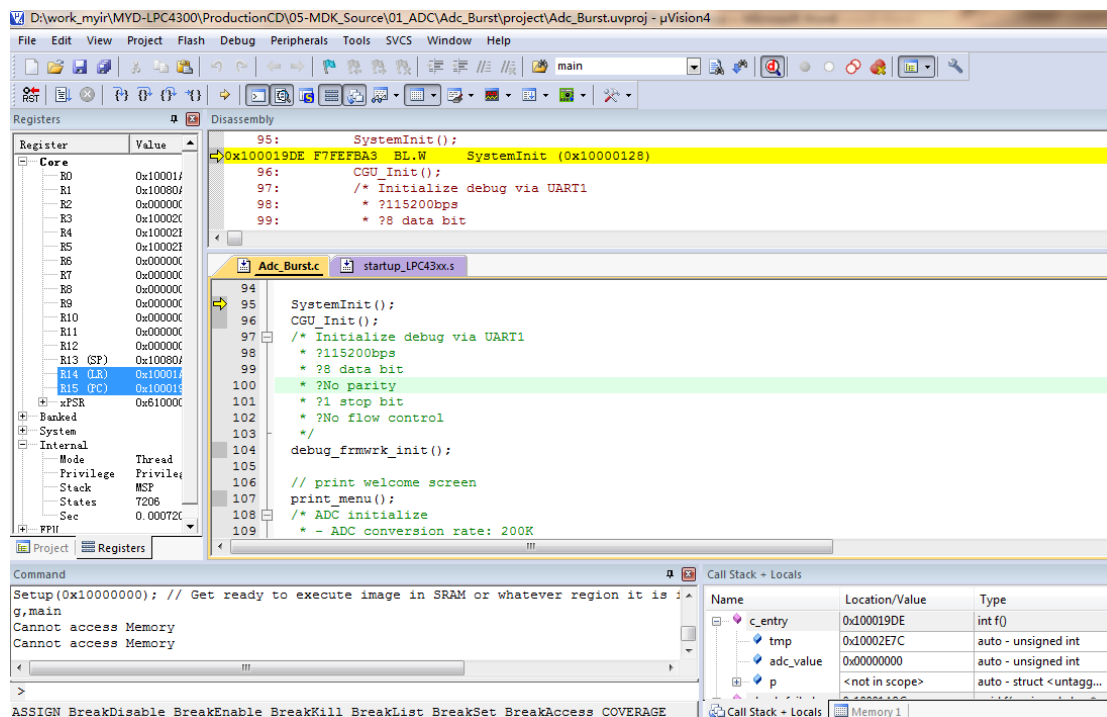

Figure 3-9
(4) Click Ctrl+F5 or shortcut icon, or select Debug->Start/Stop Debug Session to start debugging. Refer to figure 3-9: